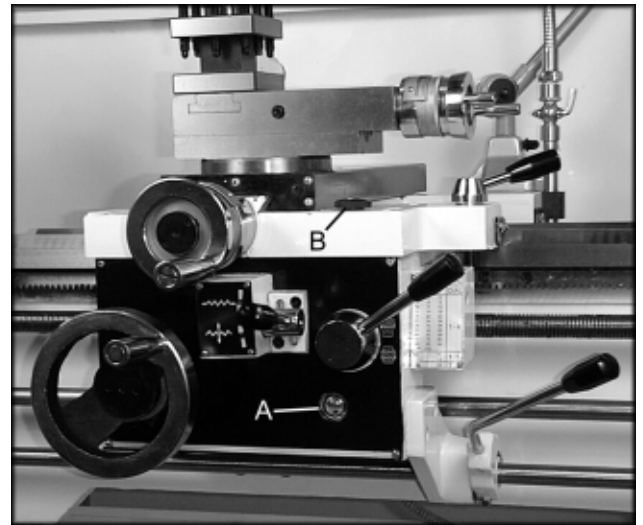

Fig. 6
3. **Apron** - oil must be up to indicator mark in oil sight glass (A, Fig. 6). Top off with Mobil DTE® Oil Heavy Medium. Remove oil cap (B, Fig. 6) on top of apron to fill. To drain, remove drain plug on bottom of apron. Drain oil completely and refill after the first month of operation. Then, change oil in the apron annually.